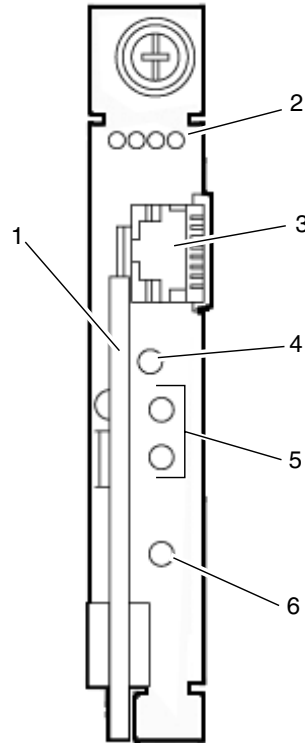

FIGURE 4-2 Shelf Management Card
- If system power is off or if the shelf management card's blue Hot-Swap LED is on, go to Step 4. Refer to FIGURE 4-2 for the location of the Hot-Swap LED.
a. Partially unlatch the card's ejector (FIGURE 4-2).
TABLE 4-2 Legend for FIGURE 4-2
TABLE 4-2 Legend for FIGURE 4-2 (Continued)
b. Wait for the blue Hot-Swap LED to light (FIGURE 4-2).
The following tables give the status information for all of the LEDs on the shelf management card. Refer to FIGURE 4-2 for the location of the LEDs on the shelf management card.